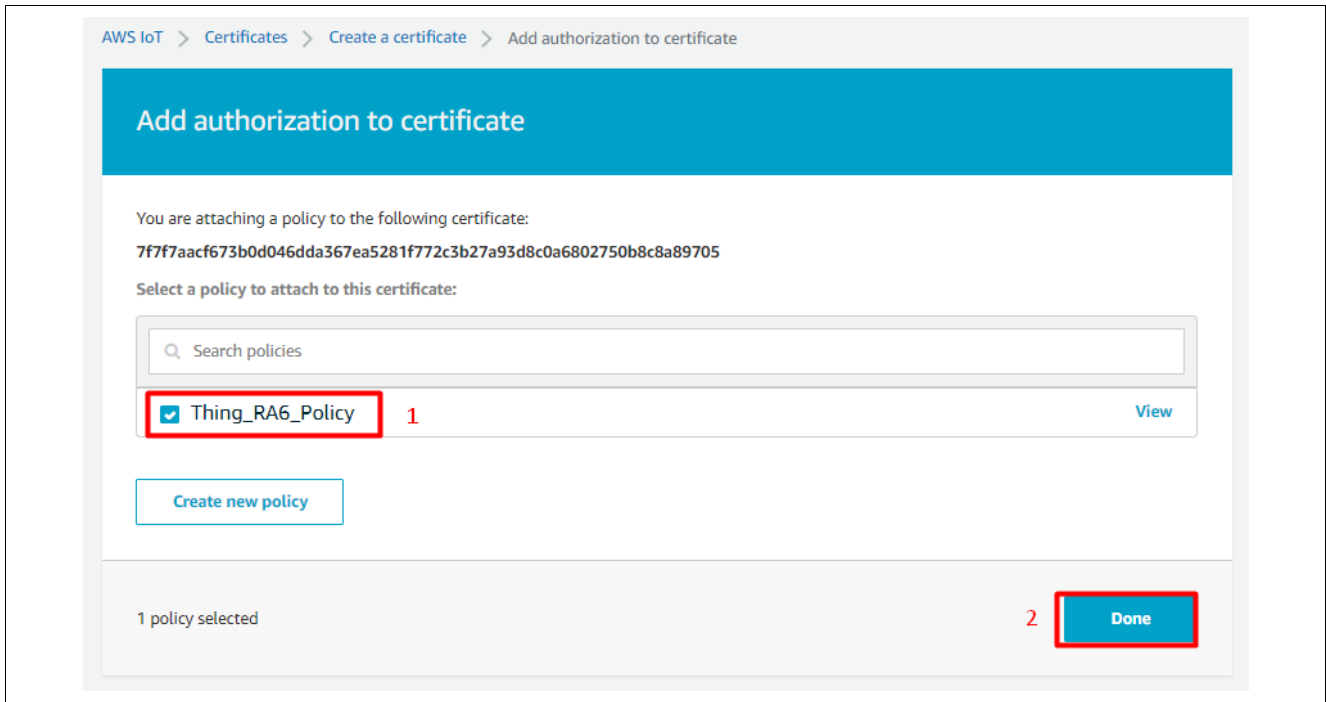

Figure 25. Attach Policy to the Certificate
7. In the new window, select the newly created policy **Thing_RA6_Policy** and click **Done** as shown in Figure 25.